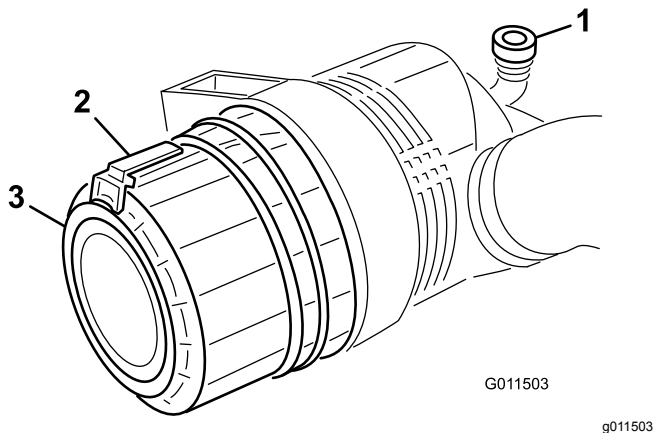

Figure 49
Service the air cleaner filter only when the service indicator (Figure 49) requires it. Changing the air filter before it is necessary only increases the chance of dirt entering the engine when the filter is removed.
1. Pull the latch outward and rotate the air cleaner cover counter-clockwise (Figure 49).